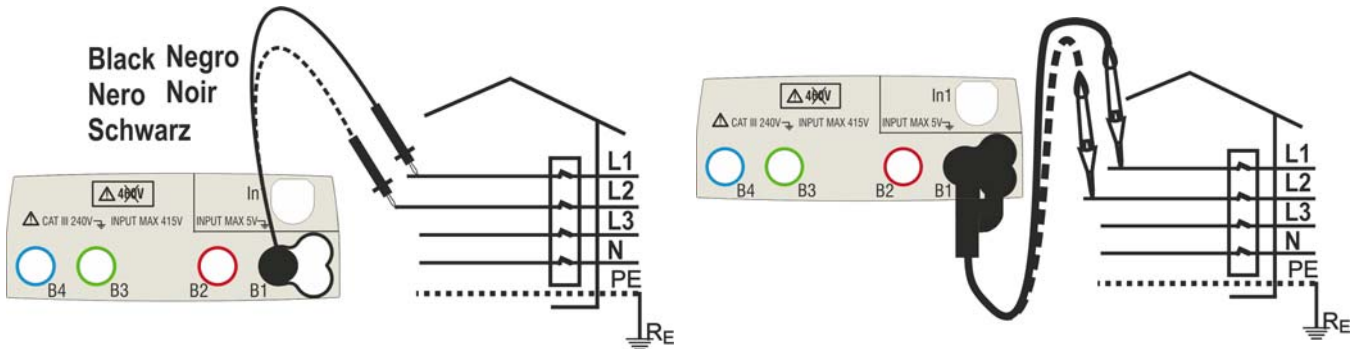
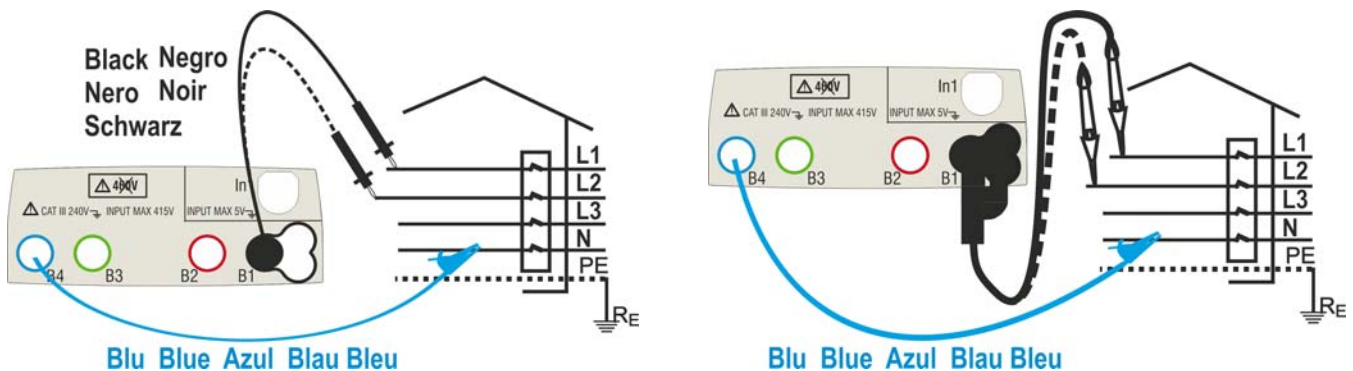

Fig. 22: Phase sequence check of 1T phases with terminal and remote lead
Fig. 23: Phase sequence check of 2T phases with terminal and remote lead
3. Insert the blue and black connectors of the single cables in the corresponding input terminals of the instrument B4, B1 (2T measurement). Insert in the free end of the cables the corresponding alligator clips or tips. It is also possible to use the remote lead by inserting its multipolar connector into the input lead B1. Connect the alligator clips, the tips or the remote lead to phase L1 and N according to Fig. 22 and Fig. 23.
Under these conditions, connect the alligator clips, the tips or the remote lead to phase L2 and N in accordance with Fig. 22 and Fig. 23.